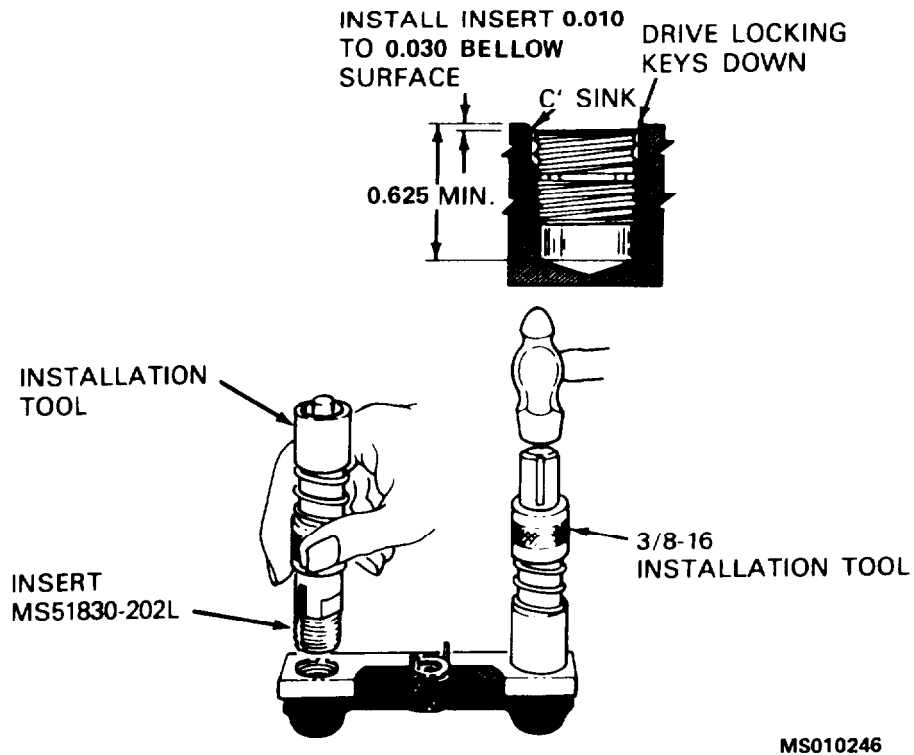

FIGURE 3-3. INSERT LOCATION
- i. Using the TD428L (3/8-16) insert installation tool from kit NSN 5120-00-110-4568, install insert into tool as shown in figure 3-3 and screw into threaded hole until insert is just below the surface. This position can be felt when the insert keys start dragging on the threaded hole.